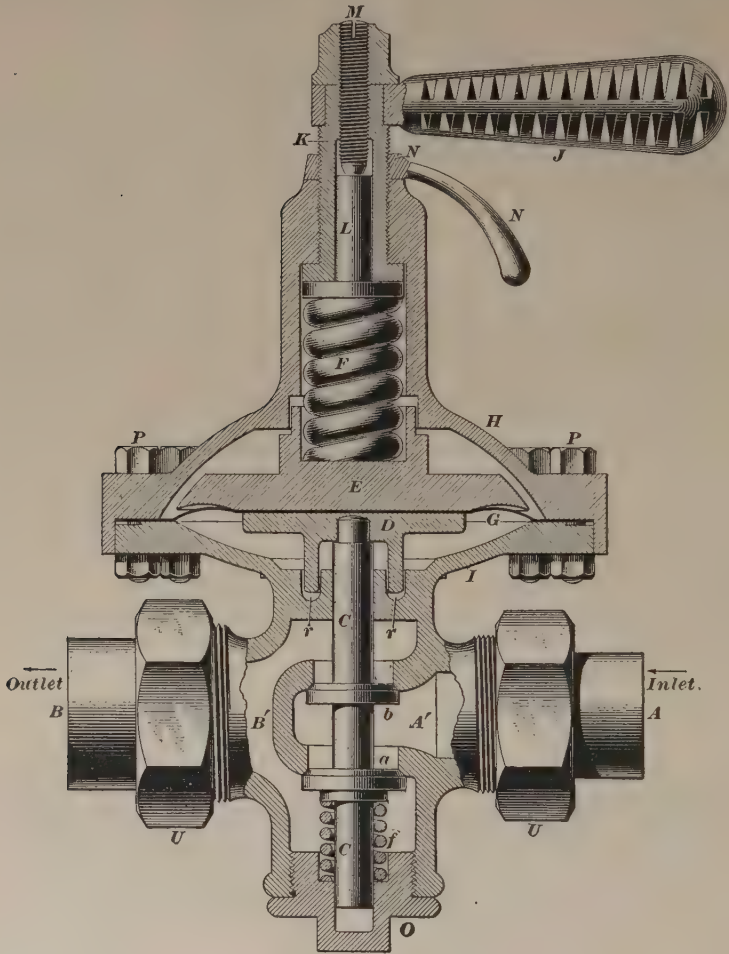

FIG. 8
28. Pressure Regulator.—Fig. 8 shows a sectional view of the pressure regulator. Steam from the boiler